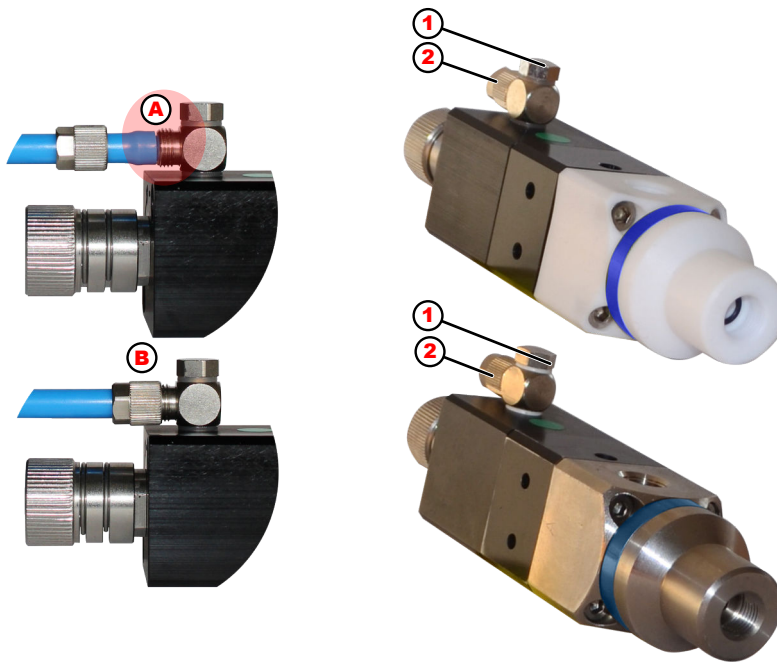

Fig. 2: Compressed air connection EP and EP-FD dosing valves 295218, 295219, 295223 (figure as example)
The angle of the compressed air connection can be adjusted to the local conditions by loosening the 'locking screw for compressed air connection' Fig. 2, pos. 1.
When fitting the compressed air hose, it is essential to push the hose up to the stop (see Fig. 2, Item. A)